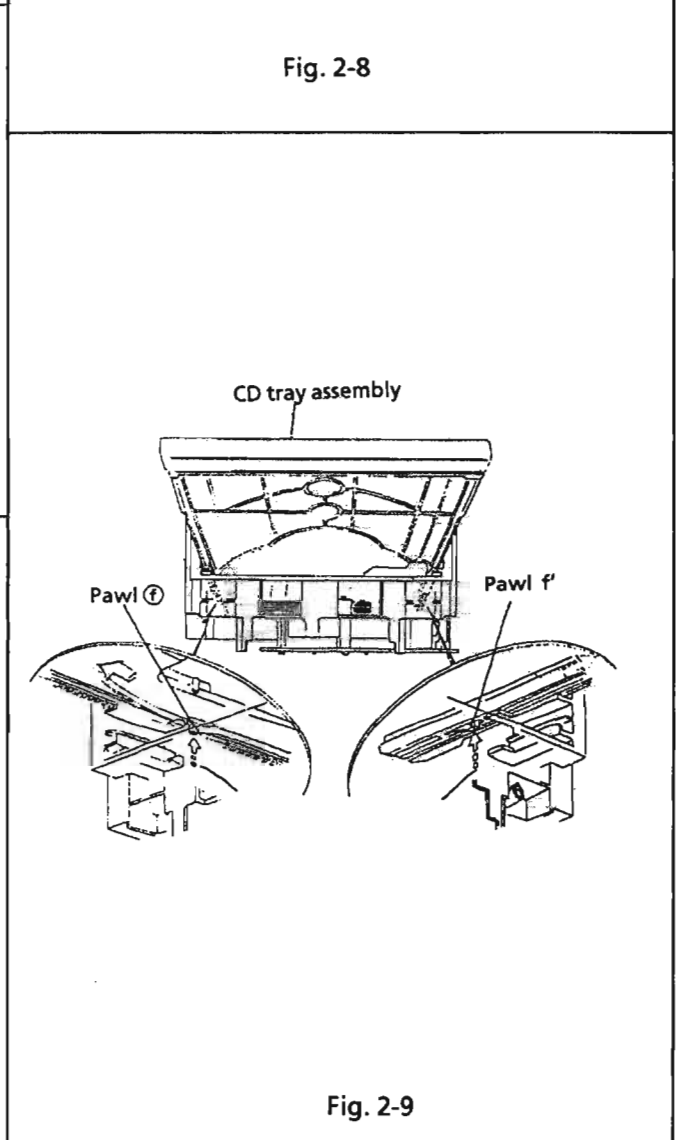

Fig. 2-9
13. Press 2 pawls (f, f') located rear side of the CD tray ass'y according to an arrow (h) to remove the CD tray ass'y. (See Fig. 2-9.)